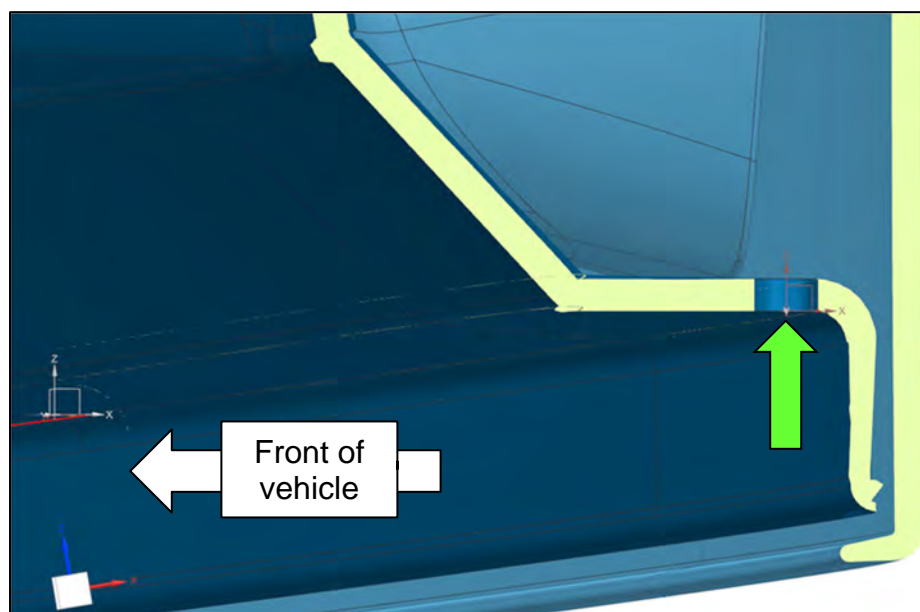

Figure 36
- Figure 36 illustrates the orientation of the underside edge of the Back Door when closed, and the angle that the drain hole will be drilled in the following steps.